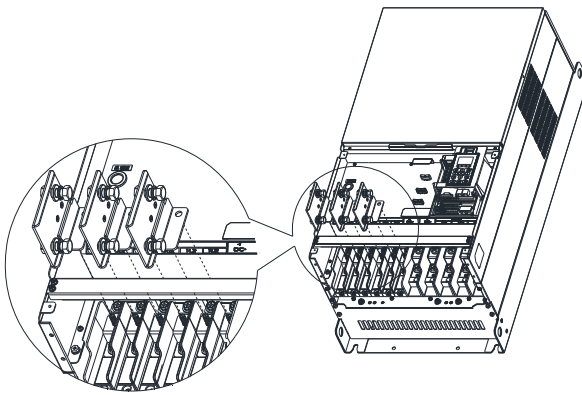

Figure 1
4. Install the 3pcs copper assy., as shown in the following figure 1. Fasten the upper M8 nuts (1–6) with a sleeve wrench (12 mm of the sleeve), as shown in the figure 2 and figure 3 below.